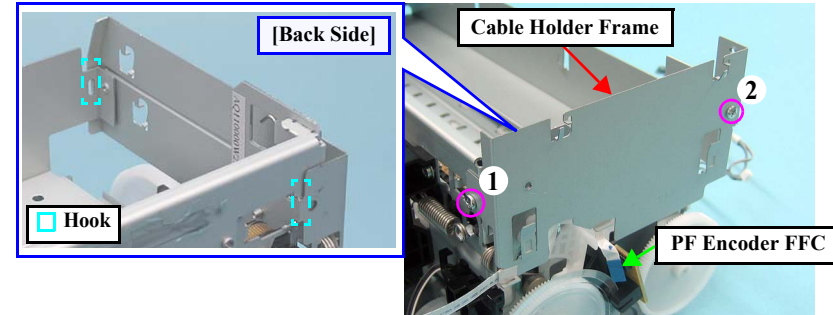

Figure 4-73. Removing the Cable Holder Frame
- When installing the Cable Holder Frame, match the two hooks of the Cable Holder Frame with the positioning holes of the Main Frame and Front Frame as shown in Fig.4-73 (p.84), and tighten the screws in the order given in the figure.